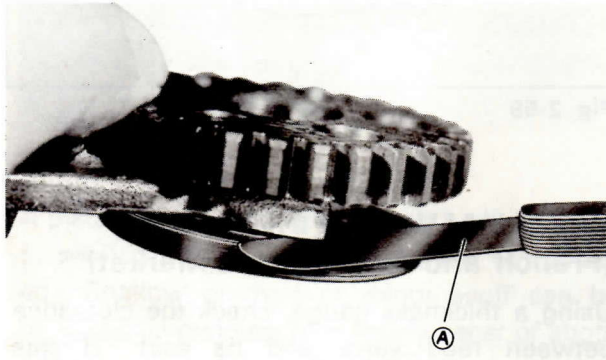

Fig. 2-61
Upon disassembling the engine, immediately inspect the transmission internals, visually examining the gears for damage and checking the meshed condition of gear teeth. Using a **thickness gauge (A)** (09900-20803), Fig. 2-61, check the shifting fork clearance in the groove of its gear.